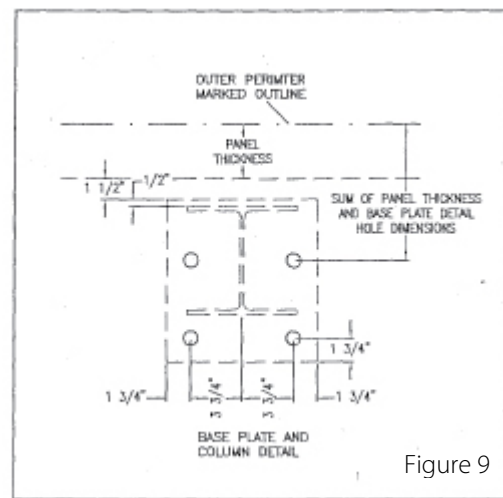

Figure 9
- C. Using the plan view and base plate details, mark the positions of centerlines in relation to perimeter. Once base plate locations are anchor bolt locations can be determined using base plate details. *See Figure 9.*